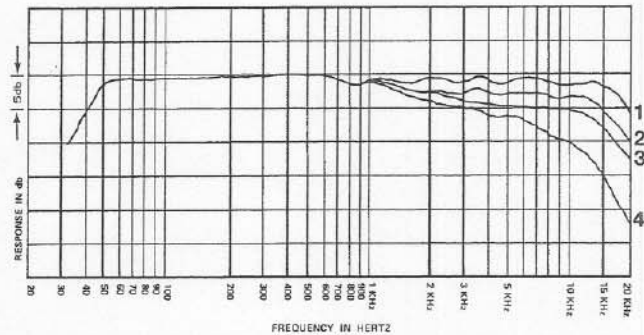

FIGURE 1 – Frequency Response
- Frequency Response:** 50 to 18,000 Hz (See Fig. 1)